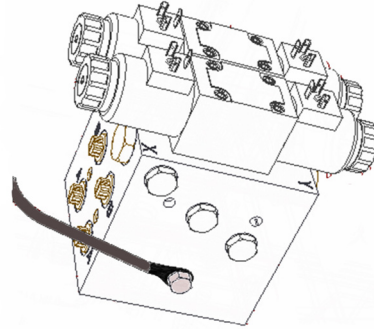

Figure 15 – Temperature probe attached to the UC4+ valve block
2. Fasten the temperature probe to the UC4+ valve block, using the supplied 3/8"x1/2" bolt as shown in **Figure 15**.